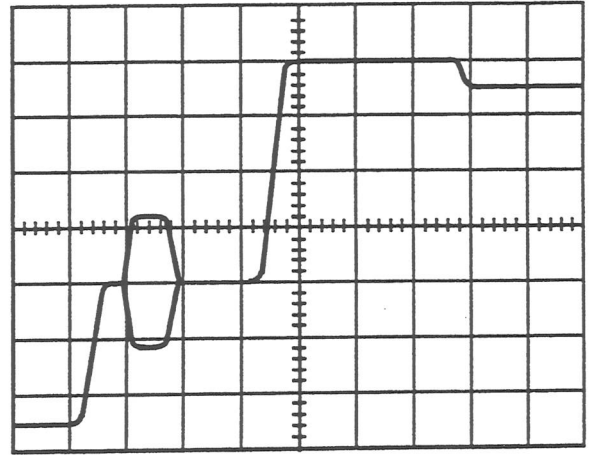

figure 12
- Reduce the sweep speed (18) to 2  $\mu\text{s}/\text{div}$ . The beginning of the line is expanded with the trigger point unchanged (line sync pulse) (figure 12).